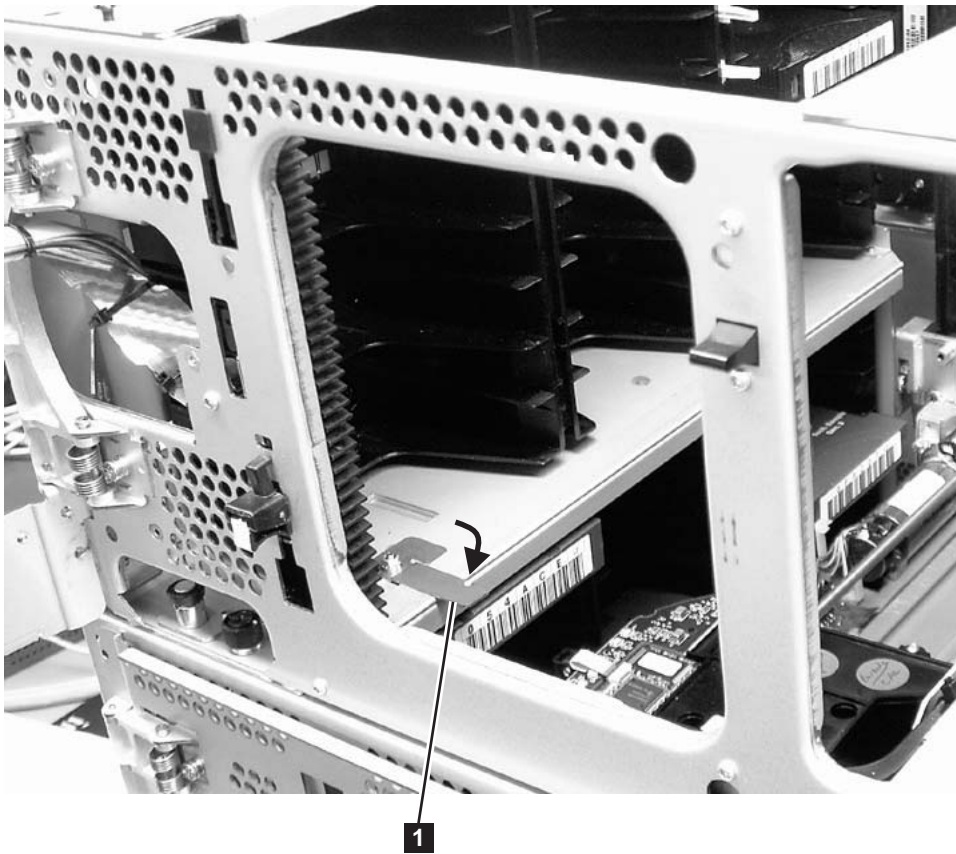

Figure 12-1. Picker locking mechanism
- b. Engage the Picker locking mechanism (**1** in Figure 12-1).
14. Gently push the picker assembly up high enough to release the picker locking mechanism (see **1** in Figure 12-1 on page 12-4).